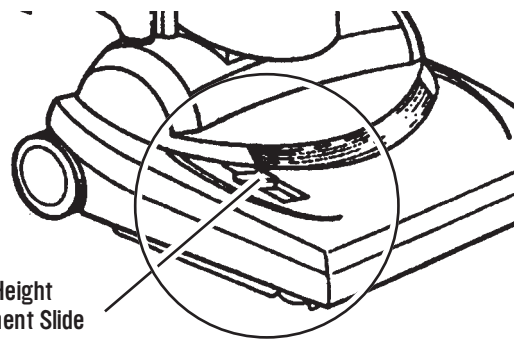

Figure 9a
1. The Carpet Height Adjustment Slide is located on the top of the Base Cover, next to the Headlight. (See Figure 9a.)